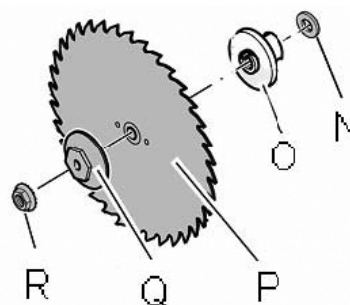

Fig. 14
Attention: left hand thread. Remove the arbor nut (R, Fig 14 and flange (Q).